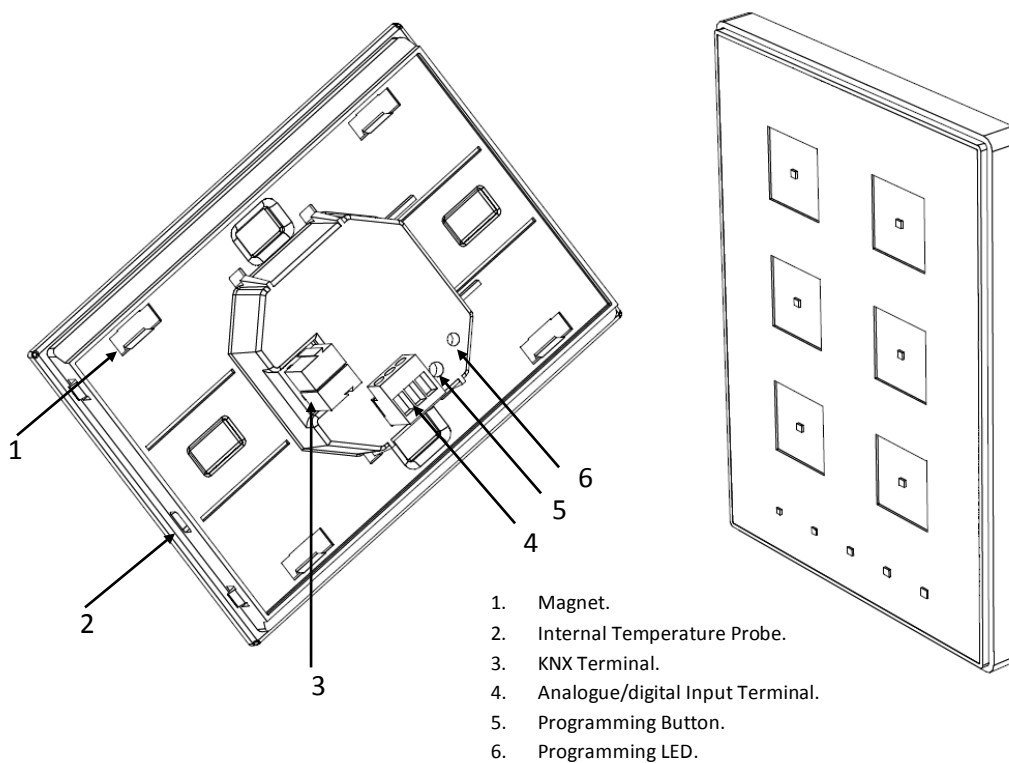

Figure 3 Touch-MyDesign. Element diagram.
The programming button (5) shown in Figure 3 may be pressed with the help of a thin screw to set Touch-MyDesign into the **Programming Mode**. After a short press, the programming LED will light in red. Note that if this button is held while plugging the device into the KNX bus, the device will enter the **Safe Mode**. The LED will then blink in red.